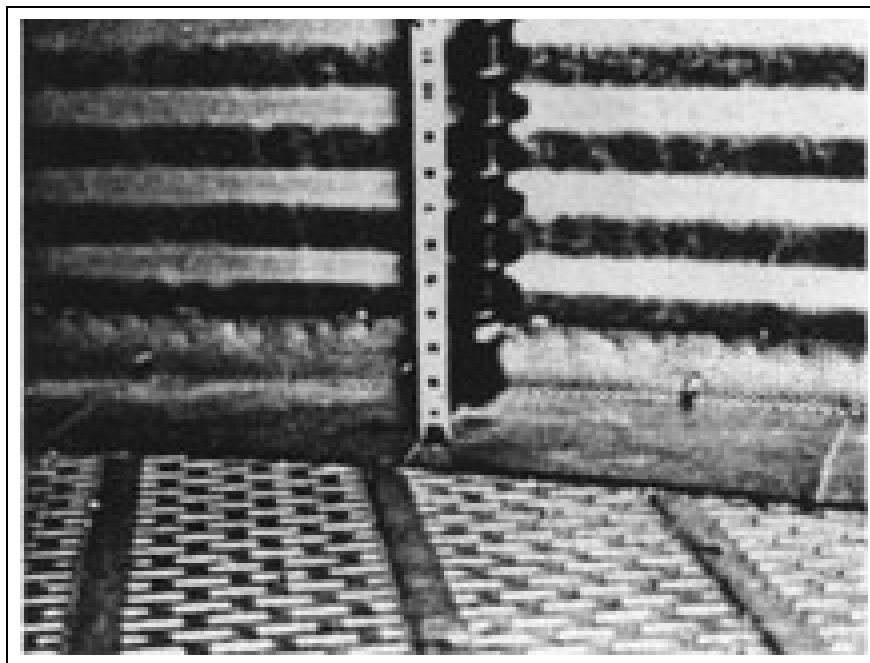

Figure 4AO
The augers are manufactured to allow them to be shortened by cutting off from the bottom end instead of the top. All augers have flighting to within 8" of the top and hardsurfaced augers will have all but the top pitch of flighting hardsurfaced. Lay the auger down and mark where the auger will be cut-off. Weld the flighting to the shaft in three (3) places within the first pitch just above this mark before cutting off the bottom part of the auger. (See Figure 4AP and Figure 4AR on Page 34.) File a notch on each side of the shaft, 3/4" down from the top end of the auger. Install the augers to the gearbox output shafts with the 2 piece auger couplers. Tighten the clamping bolts uniformly on each side of the clamp to ensure that the auger is aligned to the output shaft. (See Figure 7F on Page 72.)